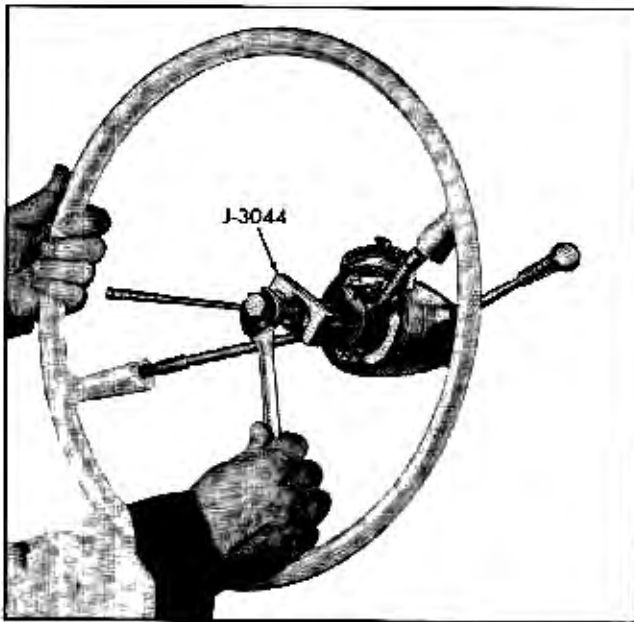

Fig. 9-6 Removing Steering Wheel
4. Remove steering wheel using puller J-3044 (Fig. 9-6).